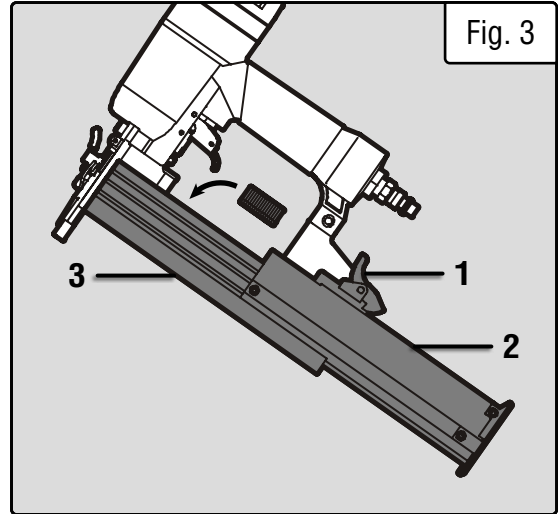

Fig. 3
1. Unlock the magazine lock (Fig. 3 - 1) to release the movable magazine (Fig. 3 - 2) and pull the magazine out fully.
2. Place a full clip of the specified type and size fasteners on the fixed magazine (Fig. 3 - 3). 100 fasteners may be loaded in the magazine.
3. Push the movable magazine assembly (Fig. 3 - 2) forward until it is locked.